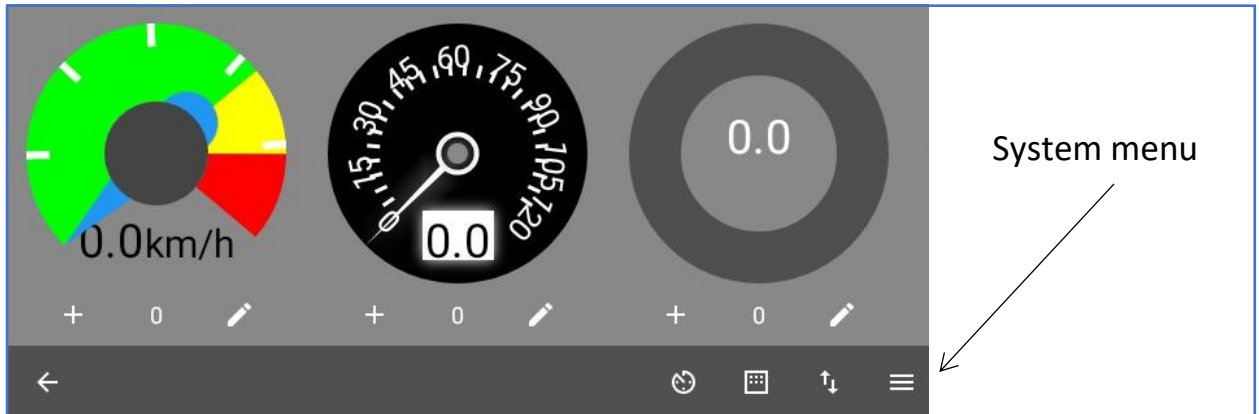

fig.3.2. Main menu of DashDrive
- 1) Click the white arrow in the bottom-right corner and open the main menu (fig.3.2).